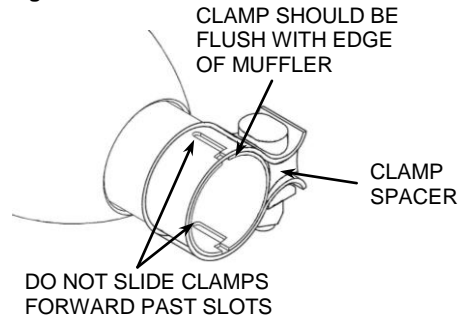

FIGURE 2
7. Check all clearances and alignments then tighten the mounting bolts to factory specifications. Tighten the muffler clamps. (NOTE: The muffler clamps should be flush with the end of the muffler when tightened. See Figure 2. If the muffler clamps are slid forward past the slots on the slip collar the clamps will not tighten the mufflers properly. Also, make sure the clamp spacer is not over the slots. The slots need to be covered by the clamp band so that it seals the slots properly. Rotate the clamp if necessary).